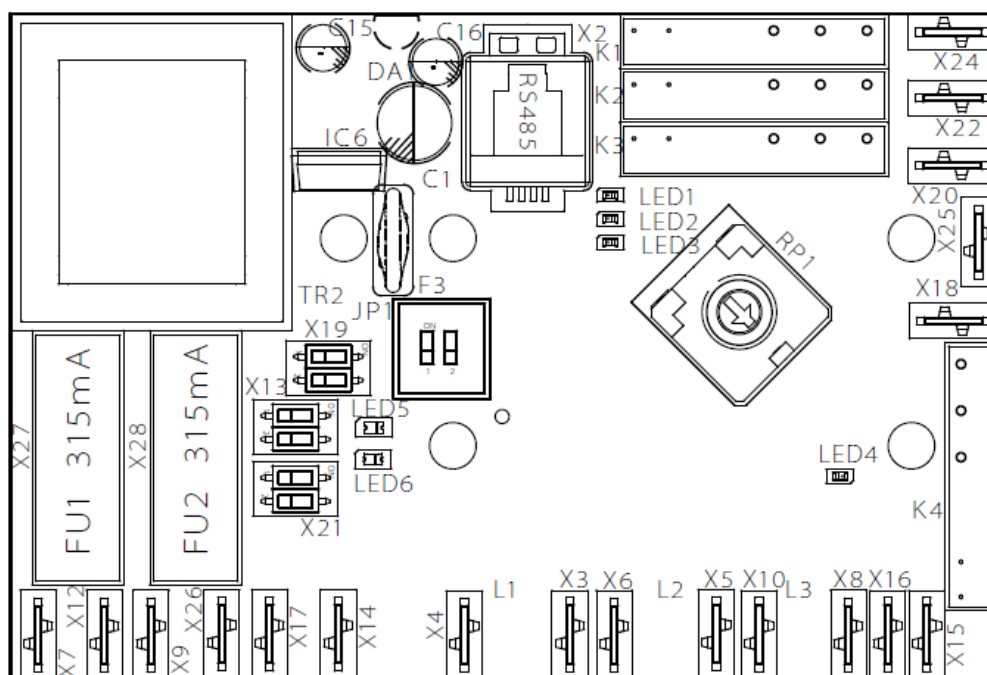

Fig. 12. Print circuit board (PCB) of temperature controller EKR-KN...
Heaters EKS with integrated temperature controller EKR-KN... (See Fig. 12) can be controlled in five different ways depending on control type:
When the heater power supply is switched on, LED 6 on the controller (EKR-KN...) PCB (see Fig. 12) flashes once every 8 seconds if setpoint is 0 °C and every second if setpoint is higher than 0 °C. If controller turns on the heating depending on the demand, LED 5 (STEP 1), LED 1 (STEP 2), LED 2 (STEP 3), LED 3 (STEP 4), LED 4 (STEP 5) lights, when in the heater are mounted 4 additional steps (see Fig. 12).
When the heater power supply is switched on, LED 6 on the controller (EKR-KN...) PCB (*see Fig. 12*) flashes every second. If controller turns on the heating depending on analog signal, LED 5 (*STEP 1*), LED 1 (*STEP 2*), LED 2 (*STEP 3*), LED 3 (*STEP 4*), LED 4 (*STEP 5*) lights, when in the heater are mounted 4 additional steps (*see Fig. 12*).
1. Control by the supply air temperature sensor (*TJ-K10K*), when the first (*1*) switch of JP1 (*see Fig. 12*) is in position OFF. LED 1 (*on the heater case*) flashes once per second. Setpoint temperature (*0...30*) °C.
2. Control by the supply (*TJ-K10K*) and by the room (*NTC10*) air temperature sensor, when the first (*1*) switch of JP1 (*see Fig. 12*) is in position ON. LED 1 (*on the heater case*) flashes twice per second. Setpoint temperature (*15...30*) °C. In this mode is preprogrammed the minimum (*15°C*) and the maximum (*40°C*) temperatures of supply air. The room air temperature sensor is mounted in the wired panel TR NTC10.